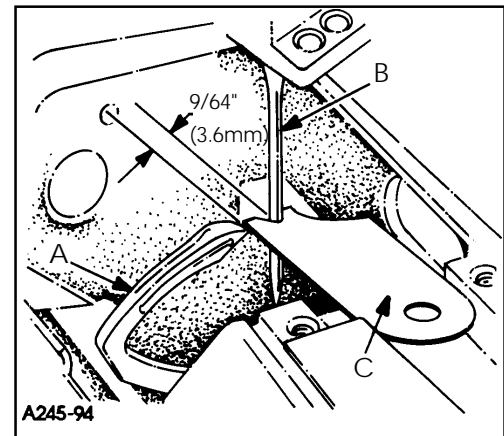
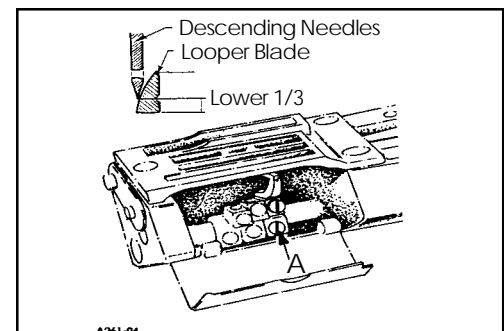

FIG. 6
FIG. 7
Insert a new set of needles, type and size specified. Always adjust the looper (A, Fig. 6) for the left needle first. Set the looper so that the distance from the center of the needle (B) to the point of the looper (A) is  $\frac{9}{64}$ " (3.6mm) when the looper is at its farthest position to the left. Looper gauge (C) No. 21225-9/64 can be used advantageously in making this adjustment. If adjustment is required, loosen screw (A, Fig. 7) in looper holder, permitting movement in either direction to attain the  $\frac{9}{64}$ " (3.6mm) dimension as shown in Fig. 6. Retighten screw (A, Fig. 7). Repeat for other needles and loopers.
Rotate handwheel in operating direction to assure that the looper point passes to the rear of the needle to touch but not to deflect the needle. This adjustment can be made by loosening screw (A, Fig. 7) in looper holder. Looper holder can be moved front to back to attain looper to needle setting. Always check the  $\frac{9}{64}$ " (3.6mm) looper gauge setting after setting the looper to the back of the needle, and conversely, always check the setting of the looper to the back of the needle after setting the  $\frac{9}{64}$ " (3.6mm) looper gauge.
The amount of looper avoid has been set at the factory to .110" (2.8mm). If it becomes necessary to adjust the amount of avoid it is recommended as a starting point, to have the points of the descending needles contact the back of the lower 1/3 of the back of the looper blade. (See Fig. 7).